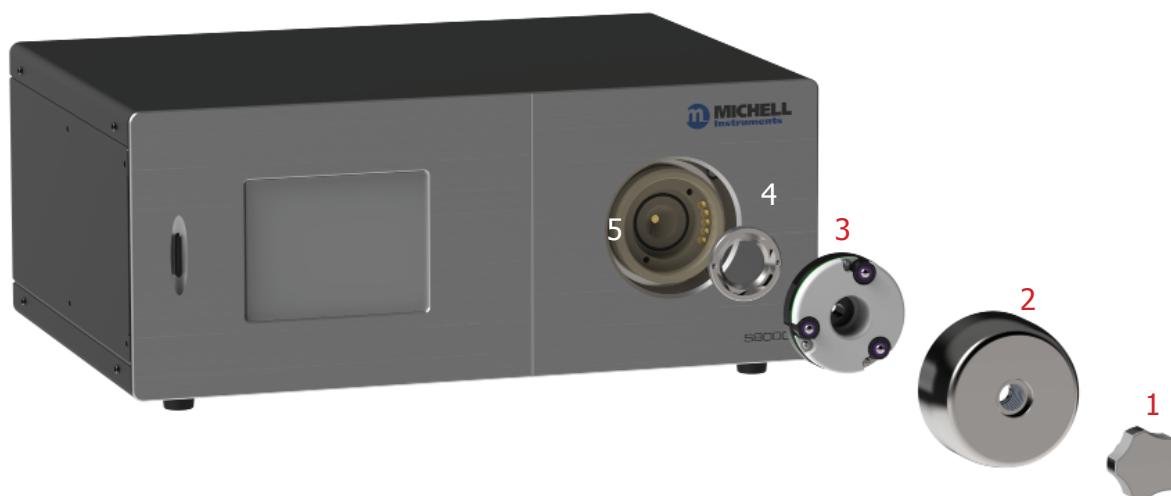

Figure 38 *Sensor Mirror Cleaning*
1. If the power supply cable is fitted with a fused plug, switch off the power supply, remove the plug, check and, if necessary, replace the fuse. If the instrument still fails to operate, after fitting the fuse and switching the power supply on, proceed as follows (see *Figure 38*).